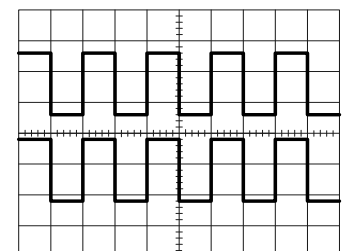

Figure 3
- Set the TIME/DIV (18) back to 0.5-mS/DIV.
- Set the VERT MODE (15) switch to CH2 and align the trace with the horizontal center line of the grid by adjusting the CH2 POSITION (14) control.
- Connect a second probe to the CH2 INPUT terminal (10).
- Connect the probe tip to the CAL (36) terminal so both CH1 and CH2 probes are connected.
- Set the CH2 VOLTS/DIV (12) control to 0.1 V/DIV and select X10 on the CH 2 probe.
- Set the CH2 AC-DC-GND (11) switch to AC and release the GND. You should now see the same square wave signal as before, the only difference being the input is now on CH2 instead of CH1.
- Set the VERT MODE (15) switch to DUAL. You should now be able to see the waveforms of both CH1 and CH2 as shown in Figure 3. You are able to move the waveform of each channel by using the corresponding CH1 or CH2 VERT POSITION (9), (14) controls.